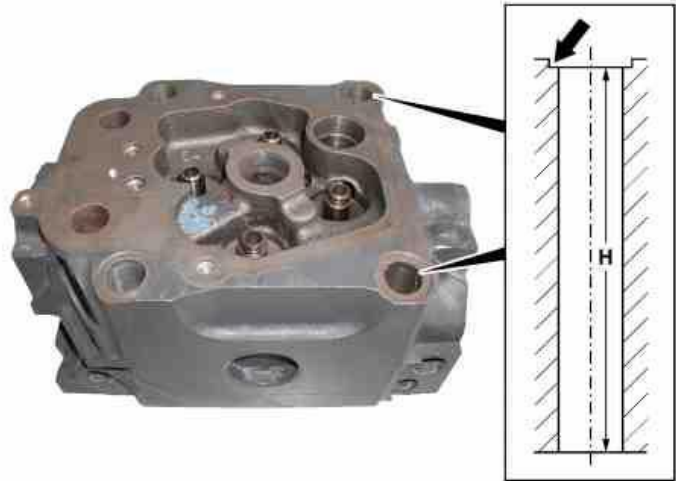

Figure 4
- a. If grooves are present, the height (H) of the cylinder head must be measured.
- b. If the dimension is below the limit for minimum cylinder head height (113.5 mm or 4.46 in), the cylinder head must be replaced (Figure 4).